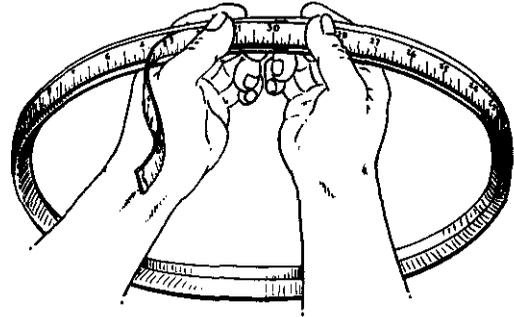

Fig. 2 - Measuring the Outside Circumference
- (a) The outside circumference - Fig. 2.